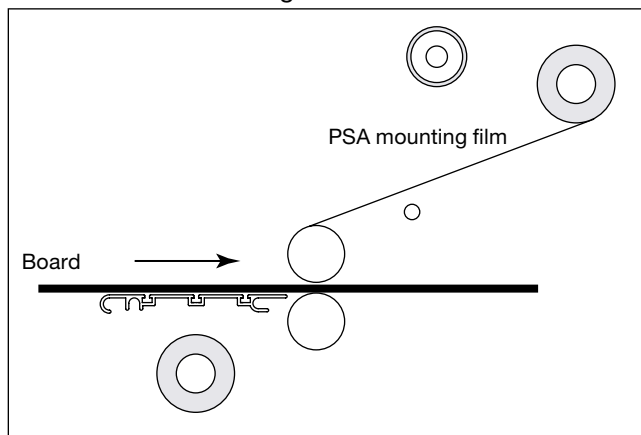

Fig. 6-16. Laminator Ready for Pre-Coating Boards.
1. Load the laminator as shown in “Fig. 6-16. Laminator Ready for Pre-Coating Boards.”